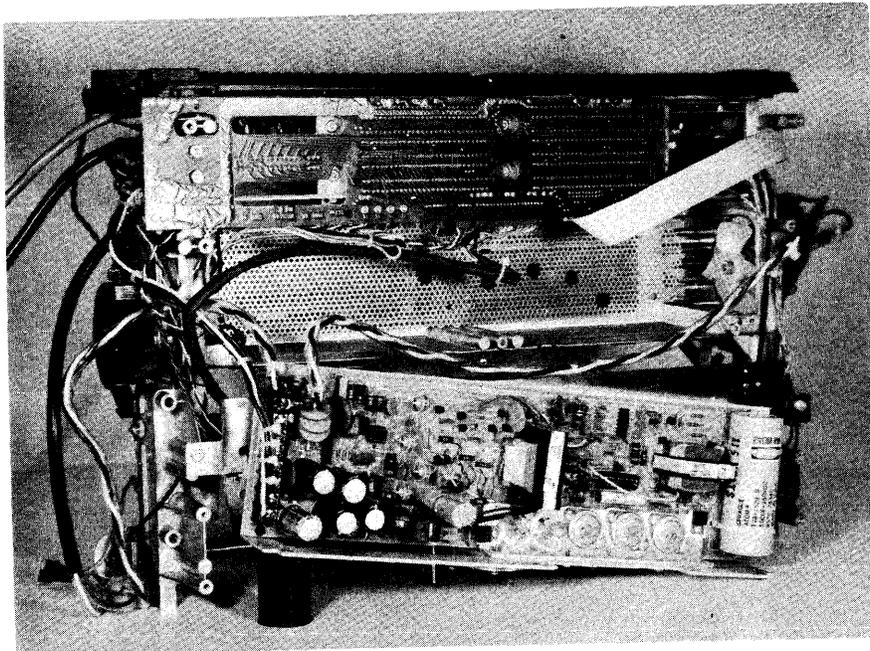
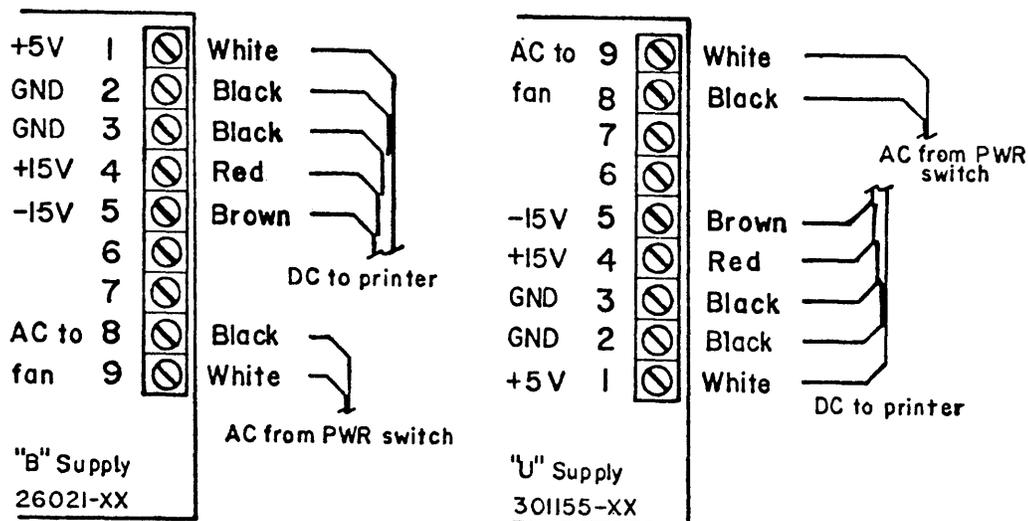

Figure 5-44 POWER SUPPLY REMOVAL/INSTALLATION
Figure 5-45 TBI WIRING DIAGRAM
8. Carefully work the power supply assembly out the bottom of the printer, and place it alongside the printer as shown in Figure 5-44.
1. Position power supply alongside printer, with TBI at left end as shown in Figure 5-44. Connect the DC power cable, AC power cable and fan motor power cable to terminal block TBI according to the wiring diagram in Figure 5-45.
2. Place the metal screen into position at the top of the power supply compartment in the main frame, and align its screw holes with the holes in the main frame. (See Figure 5-44.)